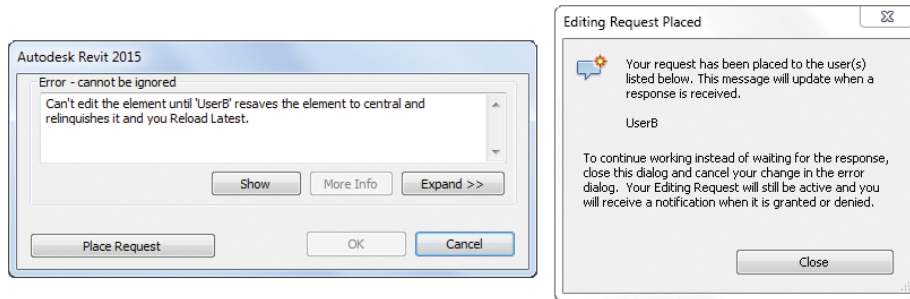

FIGURE 10.22 Placing a request
1. UserA attempts to modify a wall but receives an error dialog noting that UserB currently owns the element (Figure 10.22).
2. UserA clicks the Place Request button in the dialog so UserB will be notified (Figure 10.22).